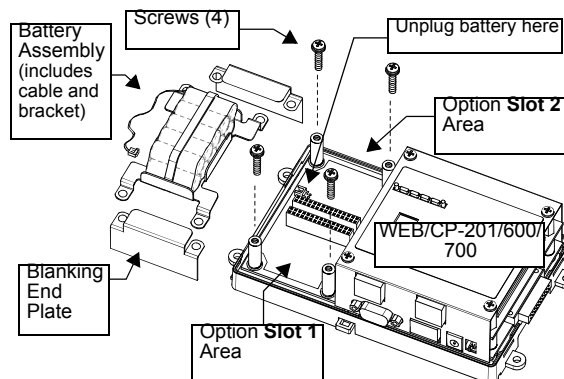
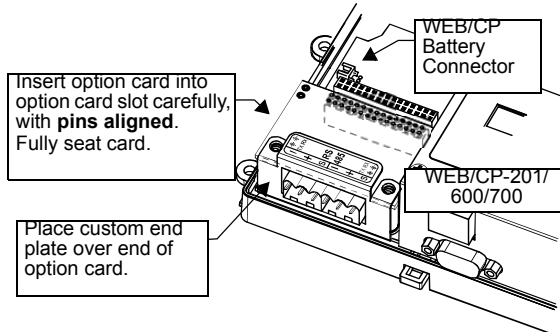

Fig. 3. Remove battery assembly.
Fig. 4. NPB-2X-RS485 inserted, end plate on top.
<p>Dual port, optically isolated RS-485 adapter, with two 3-position, removable screw-terminal connector plugs.</p> <p>The NPB-2X-RS485 has jumper blocks that can be used to enable onboard bias resistors. See "Preparation" on page 2, for more details.</p> <p>NOTE: The controller requires NiagaraAX build level 3.1.24 or higher to use the NPB-2X-RS485 option.</p>	<p>The WEB/CP-202/602-XPR series controller accepts only one (1) option card, where ports for the NPB-2X-RS485 are COM7 and COM8.</p> <p>For other controller models (WEB/CP-201/600/700 and SEC-H-201/600) up to two (2) RS-485 option cards may be installed, where:</p> <ul style="list-style-type: none"> • If a single NPB-2X-RS485 option card is in Option Slot 1, the ports are COM3, COM4. • If there are two NPB-2X-RS485 option cards, the ports are COM3, COM4 for Option Slot 1, and COM5, COM6 for Option Slot 2. • If a single NPB-2X-RS485 option card is in Option Slot 2, the ports are COM3, COM4, unless one of the following cards are in Option Slot 1: <ul style="list-style-type: none"> • If an NPB-2X-RS485 option card is in slot 1, then the ports for slot 2 are COM5, COM6. • If an NPB-GPRS option card is in slot 1, then the ports for slot 2 are COM4, COM5. <p>See Fig. 3 on page 2 for location of Option Slots 1 and 2 on a WEB/CP-201/600/700.</p>
4. For all but the WEB/CP-202/602-XPR, remove the battery and bracket assembly by taking out the screws holding it in place, setting the screws aside for later. Unplug the battery from the connector on the controller. See Fig. 3 on page 2 for an exploded view.
8. Place the connector end plate that came with the NPB-2X-RS485 over its connector (see Fig. 3 and Fig. 4).
9. Plug the battery cable into the battery connector on the controller (see Fig. 4 for location on the WEB/CP-201/600/700).
10. For all but the WEB/CP-202/602-XPR, set the battery and bracket assembly back over the option card slots, with mounting holes aligned with the standoffs. Screws enter holes in the battery bracket first, see Fig. 3.